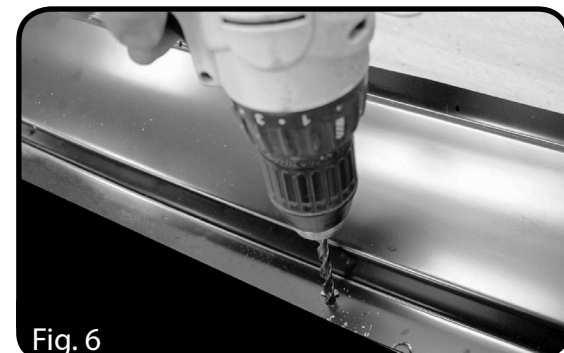

Fig. 6
- When drilling and tapping the holes be sure that the drill and tap are square to the cover. (Fig. 6)